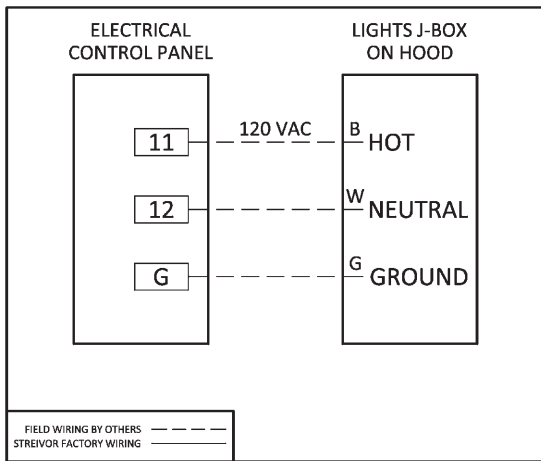

FIGURE 6:
- i. To allow power to lights to remain connected upon a fire suppression system activation, connect 120 VAC single phase power from terminal block 11 (hot), terminal block 12 (neutral), and ground in the control panel to the wires labeled “Lights” in the junction box on the hood (Figure 6).